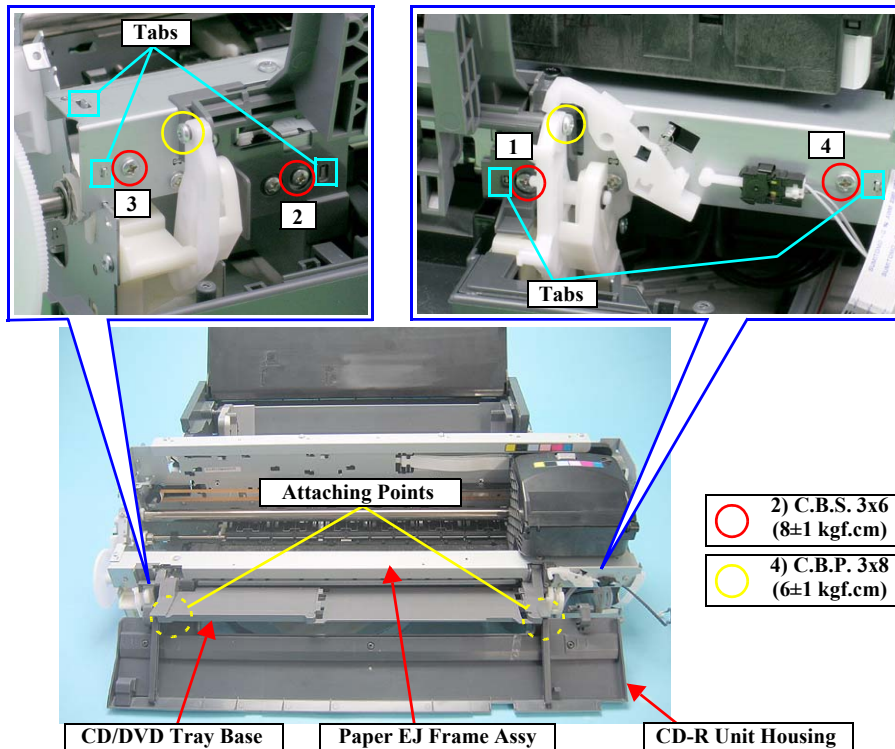

Figure 4-85. Screws that Secure the Paper EJ Frame Assy
- Match the tabs with the five Positioning Holes. See Figure 4-85.